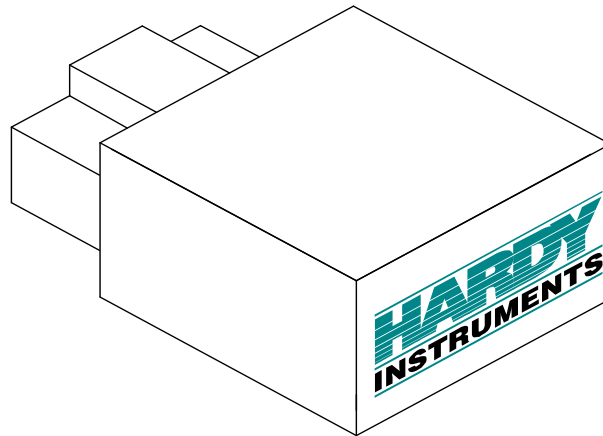

FIG. 3-21 SECURE MEMORY MODULE
- Step 1. Make sure that the module has the notch facing up. (Fig. 3-21)